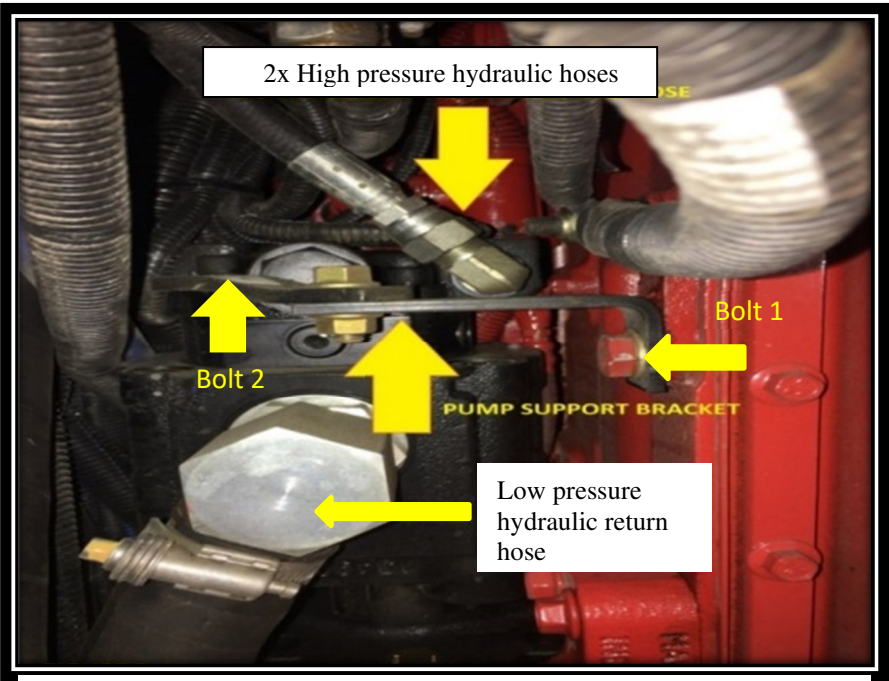
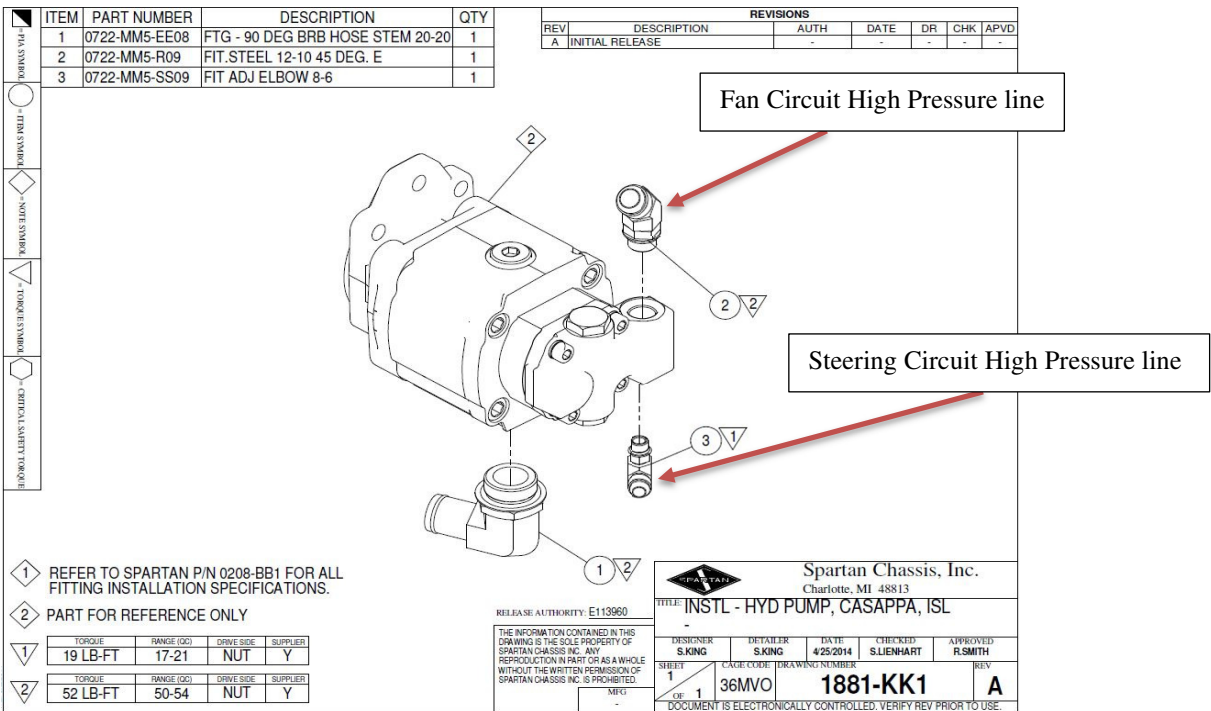
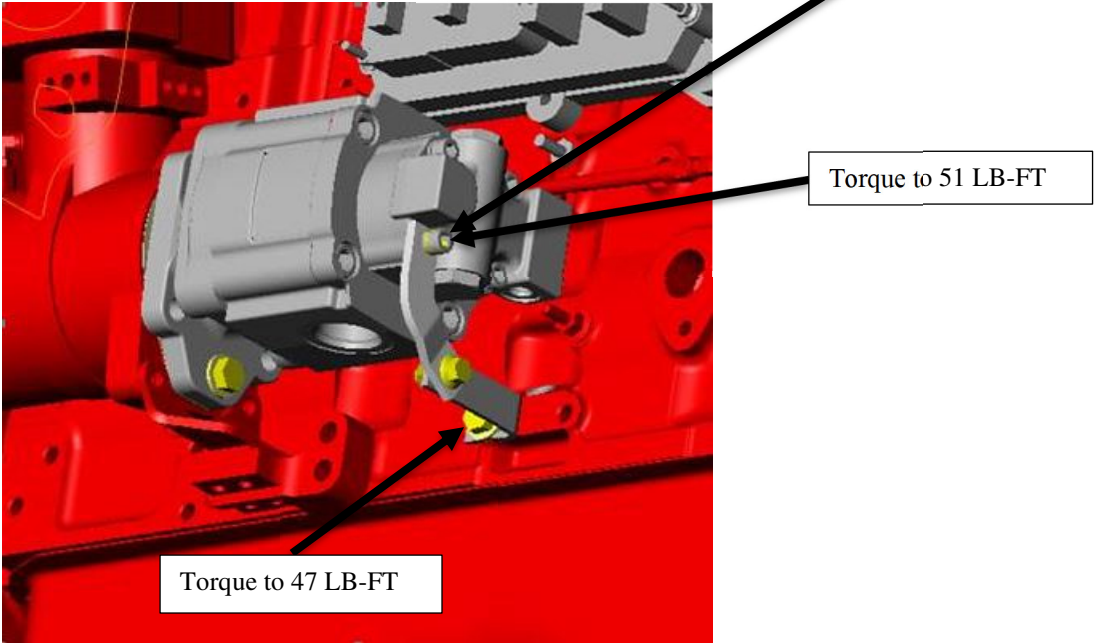

Figure 2
Figure 4
Figure 5
2. Remove the power steering pump support bracket from the pump and engine block by removing bolts 1 & 2. See Figure 2 for reference.
3. Have a drain pan ready and remove qty (2) high pressure hoses and cap off to prevent contaminants from entering system. See Figure 2 and Figure 4 for reference.
4. Remove low pressure hose and plug off to prevent contaminants from entering system. See Figure 2 for reference.
7. Install cleaned and inspected fittings into new pump. Reference Figure 4 for torque specs.
11. Install pump support bracket and torque per Figure 5. Note, you must reuse the pump bracket bolt (reference bolt 2 from figure 2 and step 2) as it is longer than the bolt that comes installed on pump.